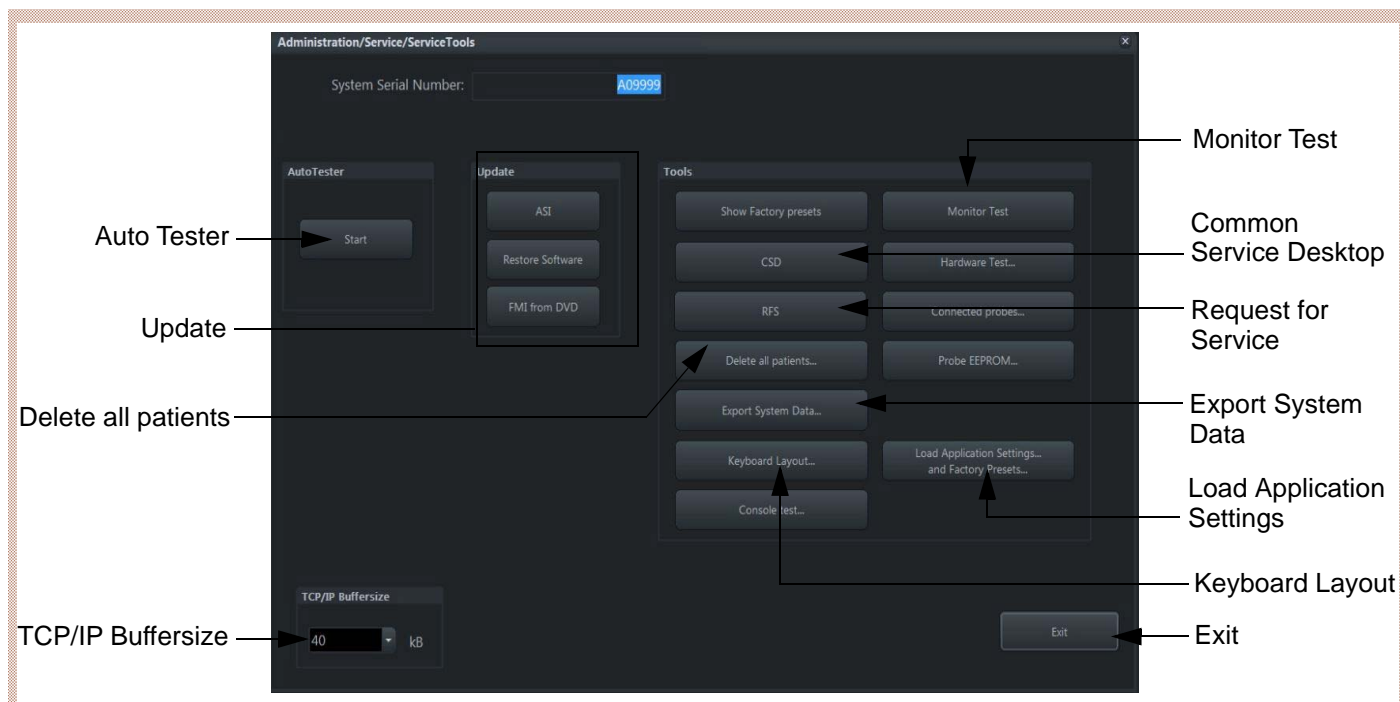

Figure 5-28 Service Tools window
- 1.) Select the LOAD APPLICATION SETTINGS button on the “Service Tools” page (Figure 5-28 on page 5-55).
- 1.) Click the **Probe EEPROM** button on the "Service Tools" page (see Section Figure 5-28 "Service Tools window" on page 5-55)
- 2.) Check and/or choose correct probe name from the pull-down menu (1).